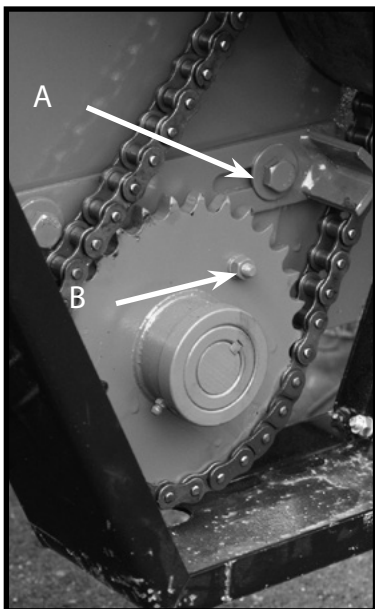

Figure 17-1
When the gearbox drive chains are properly tensioned, they should deflect 1/2" from a straight line mid-way between the sprockets. The chains are tightened with the chains tighteners, (A), Figure 17-1. DO NOT OVERTIGHTEN THE CHAINS.
The apron drive is protected by a shear bolt 5/16-18 x 1.25" Grade 5, (B), Figure 17-1. Shearing of the bolt is usually due to the apron being frozen to the floor, or the slats catching on manure frozen to the floor.